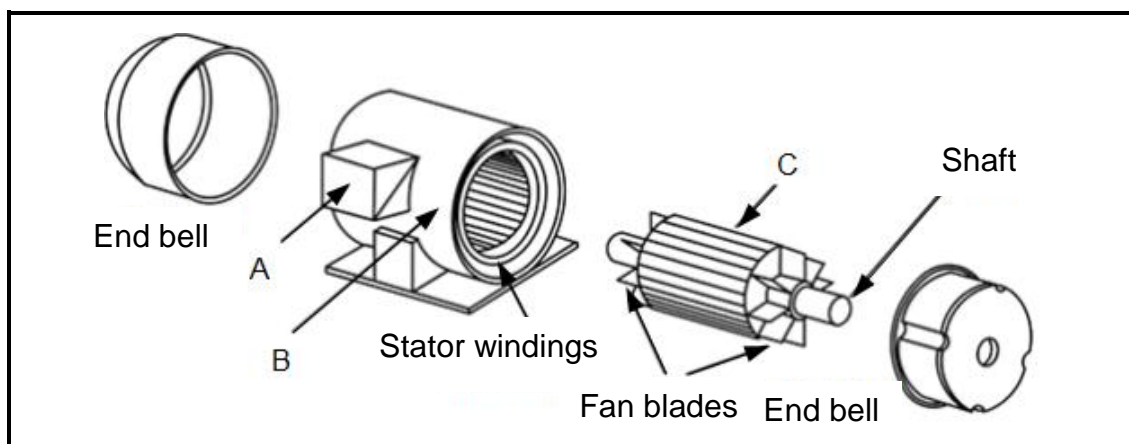

FIGURE 6.1: EXPLODED VIEW OF A THREE-PHASE MOTOR
6.1 Refer to FIGURE 6.1 below and answer the questions that follow.